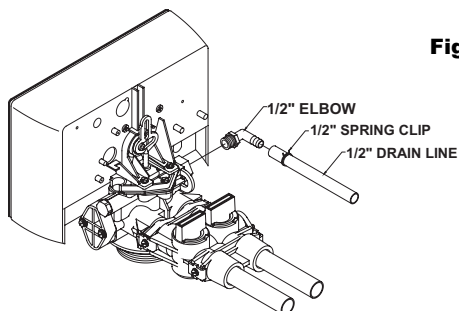

Figure 4
- Connect the drain line to the drain outlet on back of the valve, opposite the inlet connection (see figure 4). A fitting is required to connect the female pipe thread to the drain line.